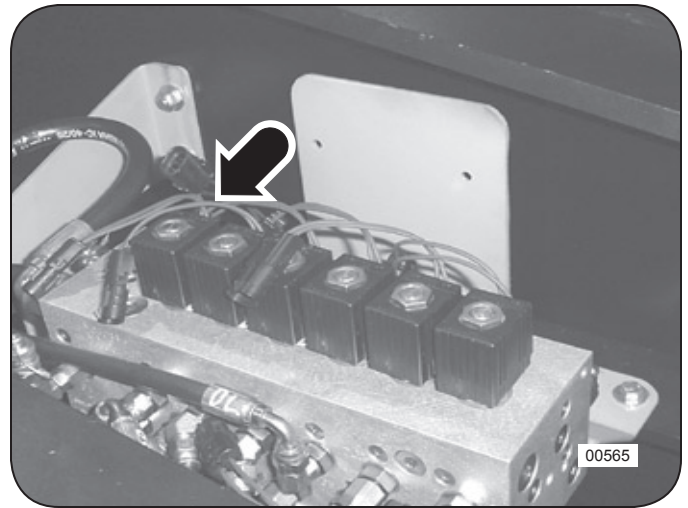

Figure 3: Lower Solenoid Manifold
2. Locate and disconnect the parking brake solenoid coil harness at the lower solenoid manifold. See Figure 3. This will prevent the parking brake from releasing.